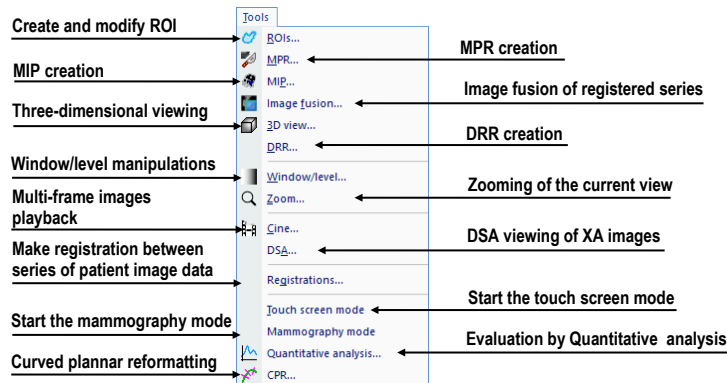

Figure 42 – Tools menu
- **Tools** – tools for image data handling such as windowing/zooming, 3D viewing, reconstructed viewing (MPR, MIP, DRR), subtraction (DSA), creating regions of interests and registrations, defining multi-modal registrations and launching the touch screen and mammography modes (see Figure 42).